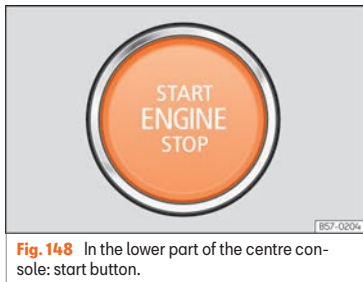

Fig. 148 In the lower part of the centre console: start button.
When entering the vehicle, the start button **>>> Fig. 148** flashes to draw attention to it.
- Press the starter button  **Fig. 148**; do not press the accelerator. There needs to be a valid key inside the vehicle for the engine to start. After starting the engine, the lighting of the **START ENGINE STOP** button remains fixed indicating that the engine is running.
- Briefly press the start-up button  **Fig. 148.**